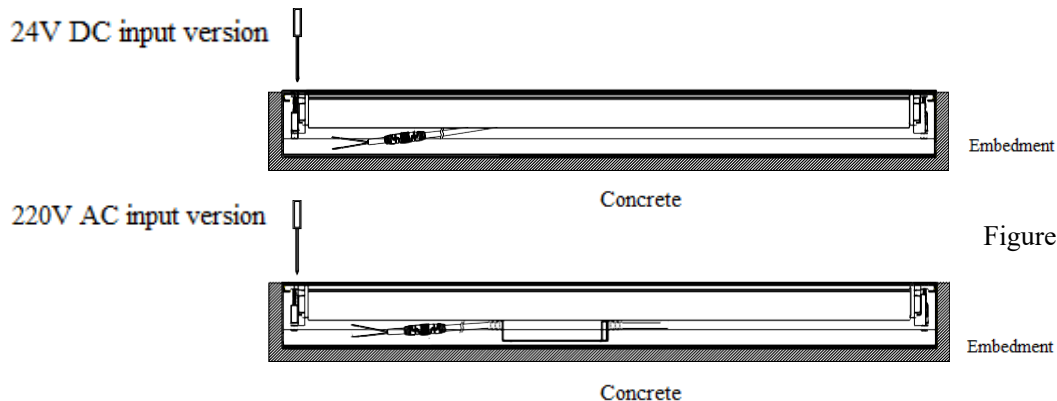

Figure 6
3. Carefully place the lamp into the embedded part, and finally use a Phillips screwdriver to rotate the M5 screw and lock it, so that the line lamp can be locked onto the embedded part (Figure 6). After the concrete solidifies, connect the power supply and it can be used normally.